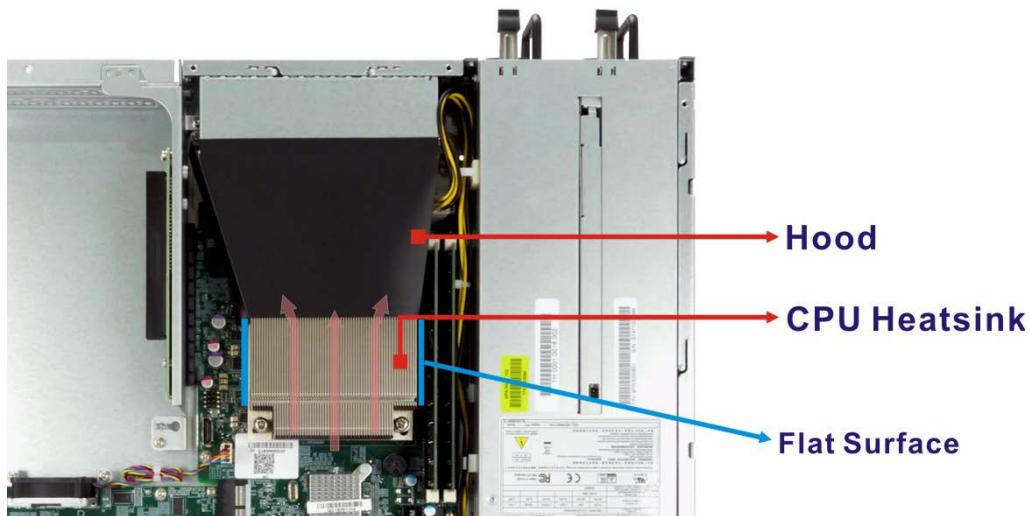

Figure 3-7: CPU Heatsink Installation
Step 2: **Properly orient the CPU heatsink.** The CPU heatsink must be oriented as shown in **Figure 3-7** so that thermal convection currents can carry the heat away from the heatsink.
Step 5: **Install the hood.** Peel off the backing of the double-sided tapes attached inside the hood. Attach the hood to the chassis and the heatsink as shown in Figure 3-7.